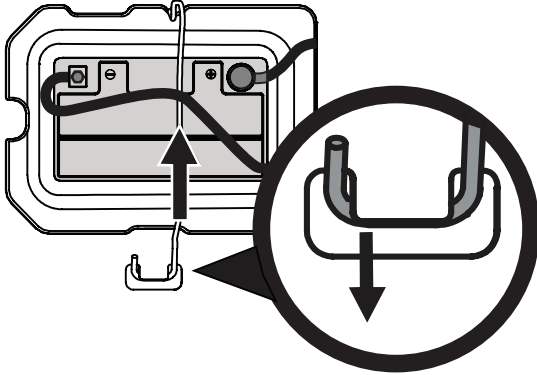

Figure 22
**NOTE:** Wiring harness should lay on top of battery hold down rod, otherwise damage to the wiring harness may result. See Figure 22 on page 14.
3. Remove the battery hold down rod by pushing the hooked end out of the tab on the fender to the right side of the battery. Then flip the battery hold down rod up to free the battery. See Figure 22.